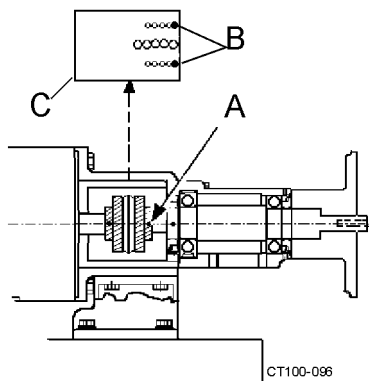

Figure 26 - Removing Coupling Covers
7. Remove the coupling cover cap screws. (Figure 26, item B).
8. Loosen the set screws on the pump coupling. (Figure 26, item A).